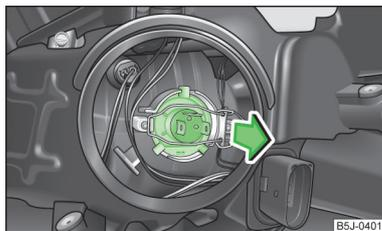

Fig. 162
- Remove the connector from the bulb, unlock the securing clip and remove the bulb in the direction of the arrow » Fig. 162.